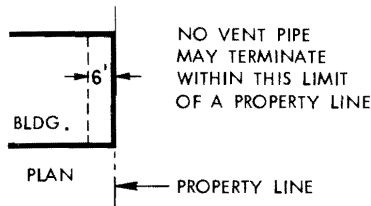

Figure 68 Location of vent pipe terminal
- 87 Fig. 68 Add the following diagram to the lower left hand corner of Fig. 68.